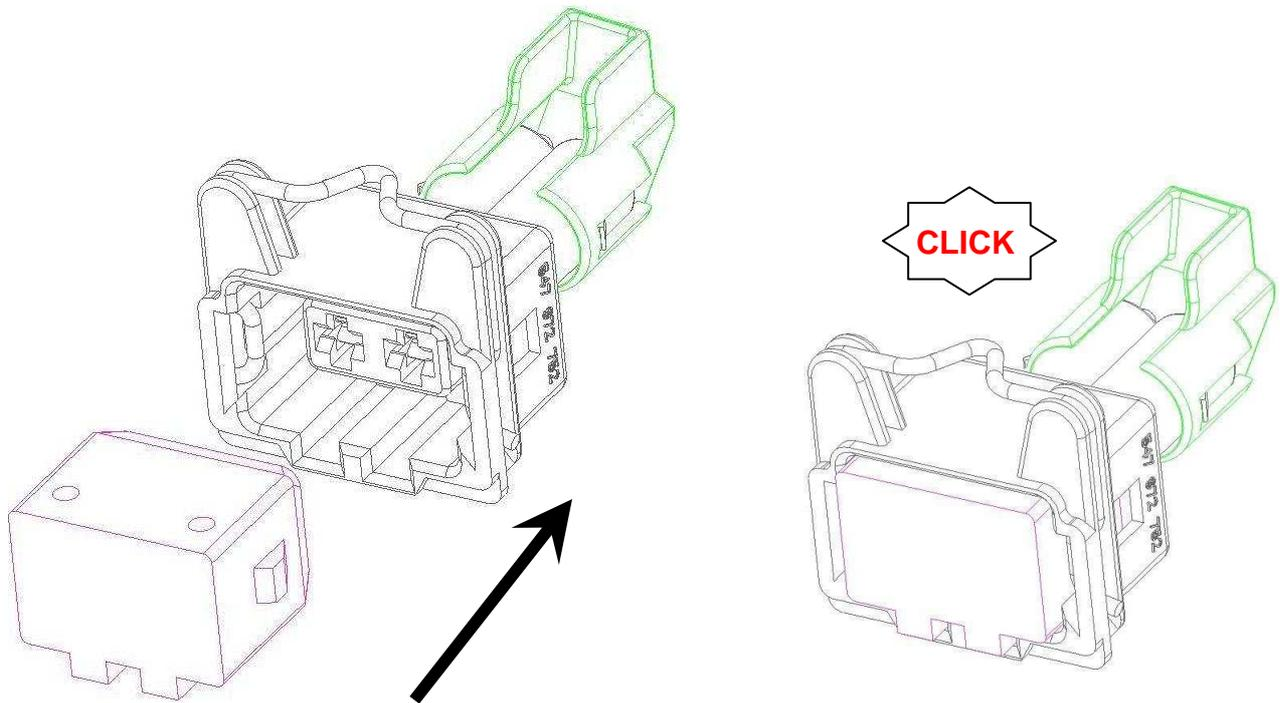

Figure 6
- 6.1 Press the Cover Cap in the direction shown by the arrows; see Figure 6 below.